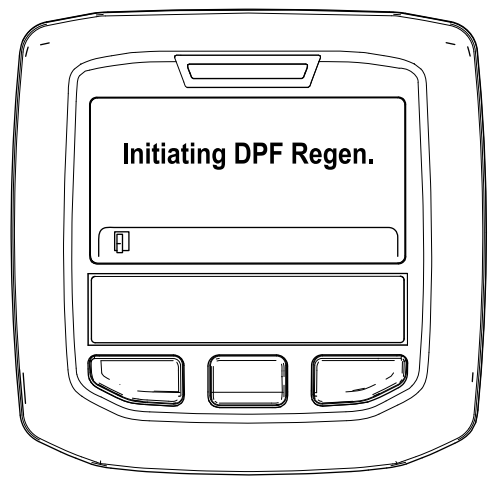

Figure 53
- A. The "Initiating DPF Regen." message displays (Figure 53).